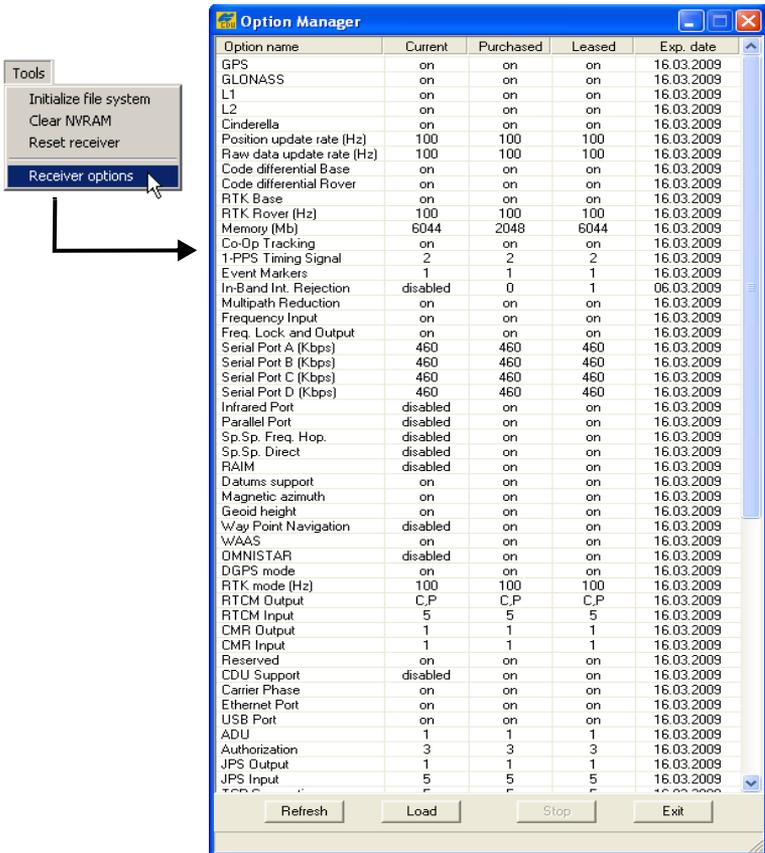

Figure 4-13. View Option Manager
2. Click **Tools ▶ Receiver Options**. The **Options Manager** dialog box (Figure 4-13 on page 4-15) contains the following information:
3. Click **Load** at the bottom of the **Option Manager** dialog box (see Figure 4-13 on page 4-15).